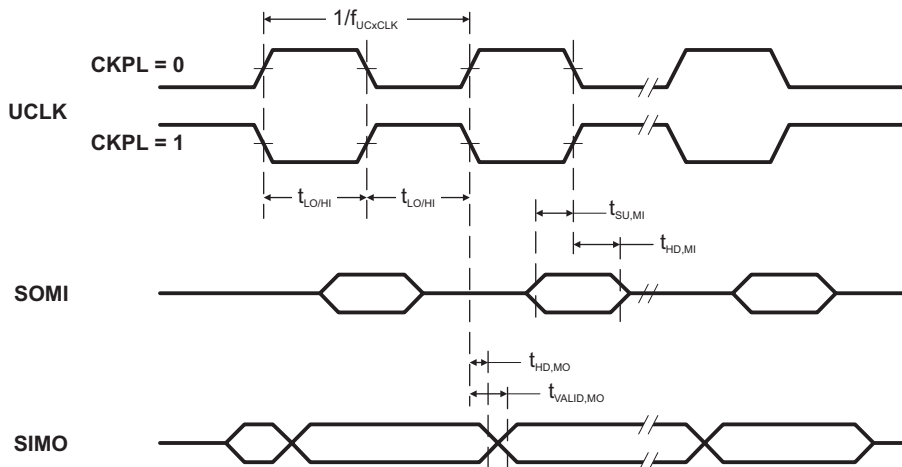
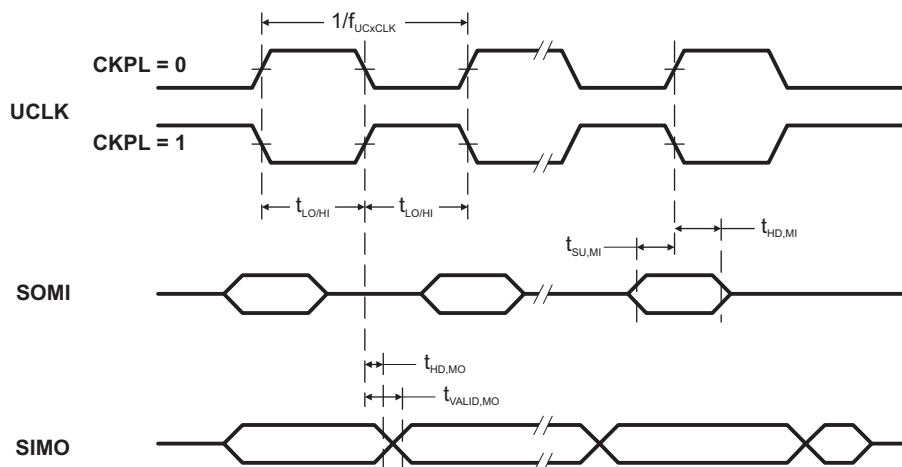

Figure 5-13. SPI Master Mode, CKPH = 0
Figure 5-14. SPI Master Mode, CKPH = 1
(see Note ⁽¹⁾, Figure 5-13 and Figure 5-14)
- (1) f_{UCxCLK} = 1/2t_{LO/Hi} with t_{LO/Hi} ≥ max(t_{VALID,MO}(USCI) + t_{SU,SI}(Slave), t_{SU,MI}(USCI) + t_{VALID,SO}(Slave)). For the slave's parameters t_{SU,SI}(Slave) and t_{VALID,SO}(Slave) see the SPI parameters of the attached slave.
- (2) Specifies the time to drive the next valid data to the SIMO output after the output changing UCLK clock edge. See the timing diagrams in Figure 5-13 and Figure 5-14.
- (3) Specifies how long data on the SIMO output is valid after the output changing UCLK clock edge. Negative values indicate that the data on the SIMO output can become invalid before the output changing clock edge observed on UCLK. See the timing diagrams in Figure 5-13 and Figure 5-14.
- (2) Specifies the time to drive the next valid data to the SOMI output after the output changing UCLK clock edge. See the timing diagrams in Figure 5-13 and Figure 5-14.
- (3) Specifies how long data on the SOMI output is valid after the output changing UCLK clock edge. See the timing diagrams in Figure 5-13 and Figure 5-14.